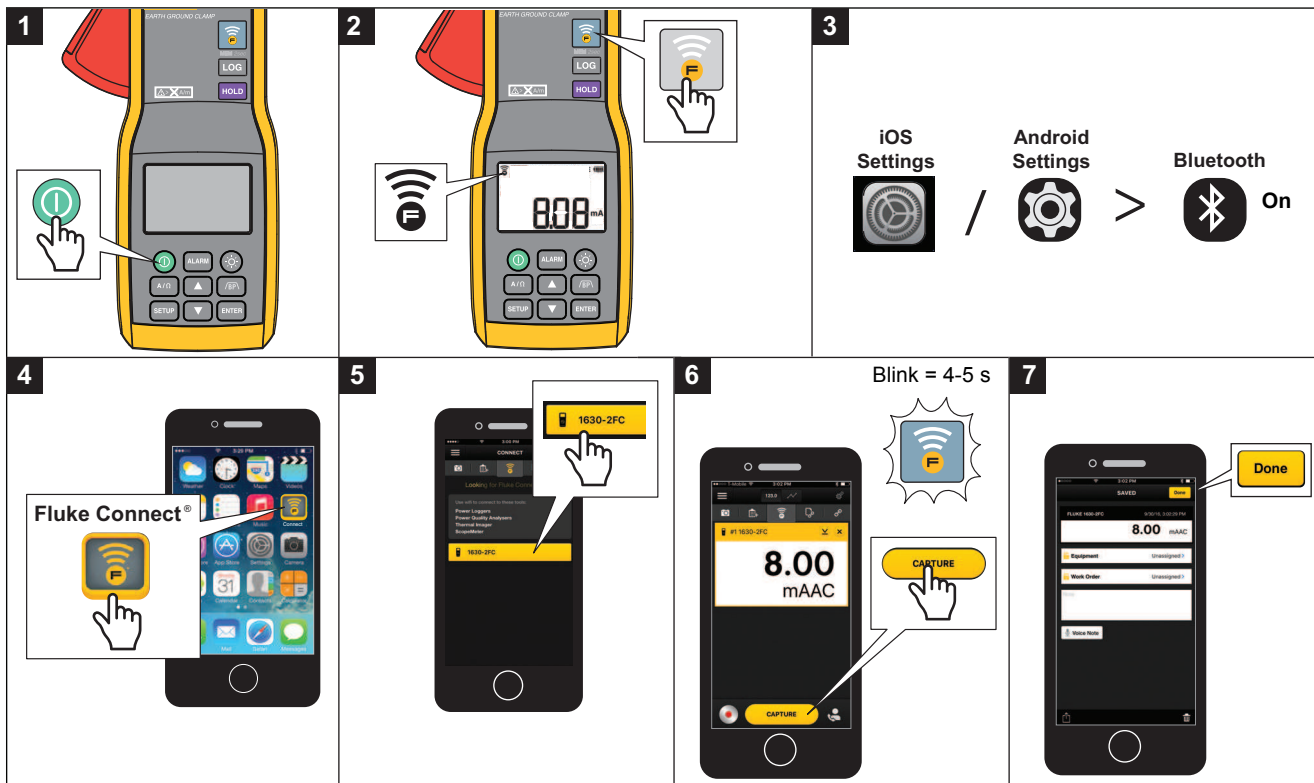

Figure 11. Fluke Connect®
1. Turn on the Clamp. See Figure 11.